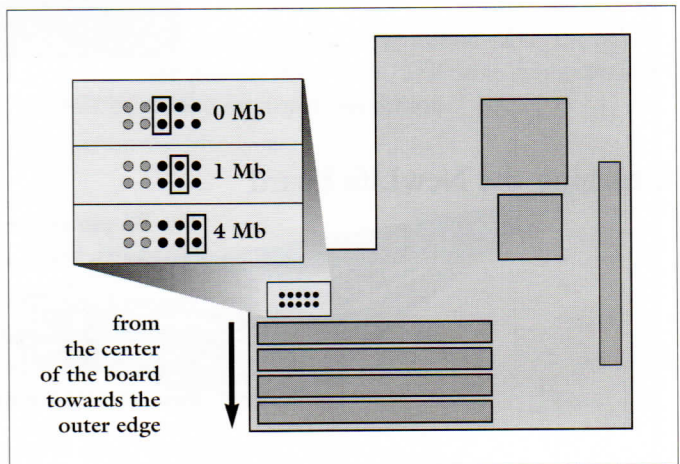

Figure 23 : The memory size jumpers
3. Set the memory size jumper to correspond to the amount of memory you are installing as shown in Figure 23.
You install the **NewLife 25SE** board on top of the Macintosh motherboard — as shown in Figure 23. The 96-pin connector on the bottom of the NewLife board attaches to the Mac SE expansion connector.